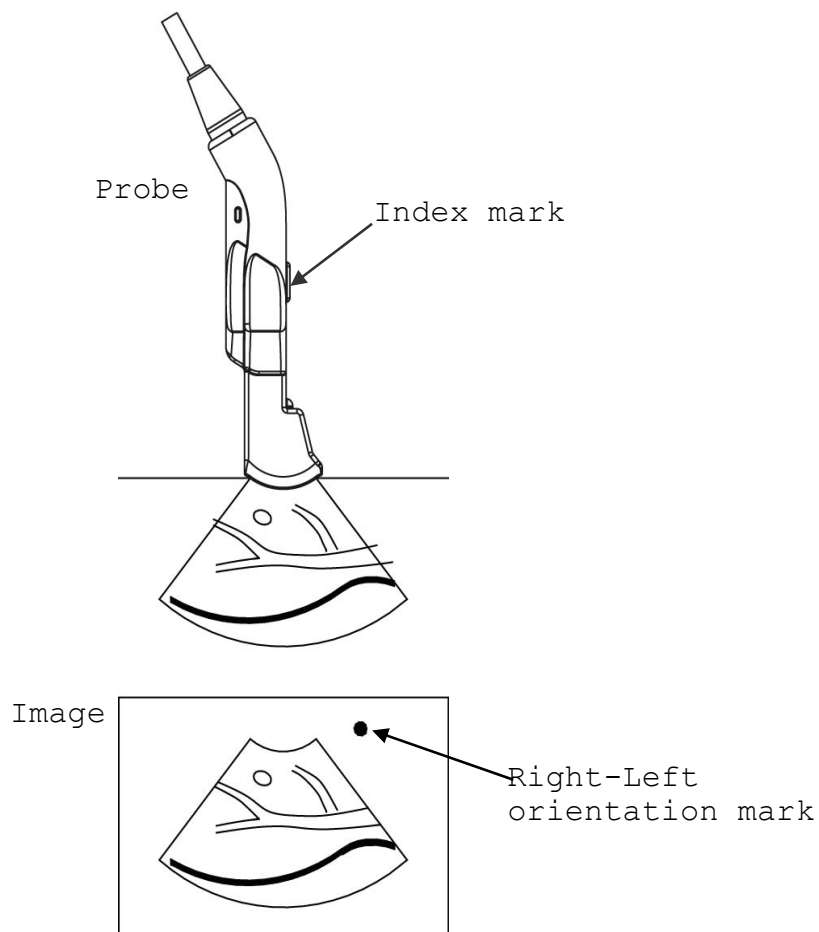

Fig. 4 Relationship between the directions of the probe and the Right-left orientation mark
- 3) Relationship between direction of the probe and the image is shown in Fig. 4. The right-left orientation mark on the image indicates the index mark on the probe.